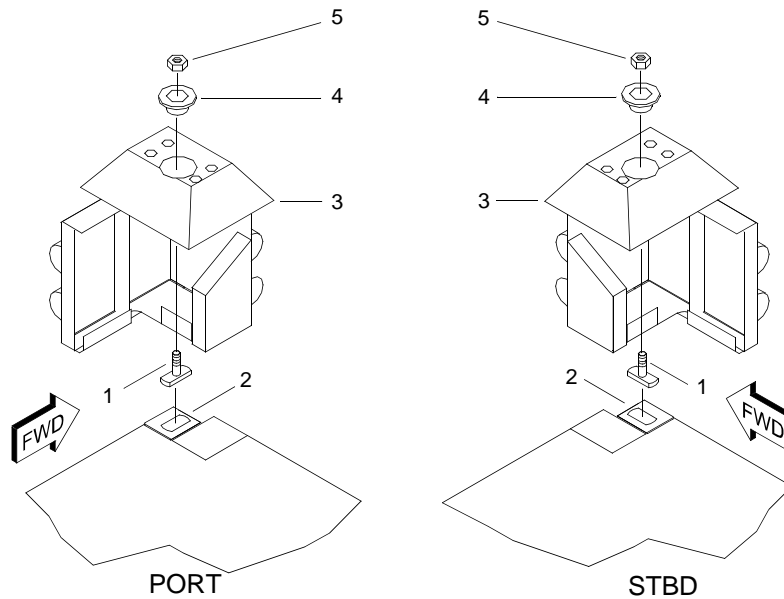

Figure 6. Installing Corner Fenders
7. Install tee bolt (figure 6, item 1) into end rake ISO corner fitting (figure 6, item 2).
8. Using assistant, install corner fender (figure 6, item 3) over tee bolt (figure 6, item 1) until threads are exposed through hole in top of corner fender (figure 6, item 3).
9. Install washer (figure 6, item 4) and nut (figure 6, item 5) to hold tee bolt (figure 6, item 1) in place.
10. Turn tee bolt (figure 6, item 1) until it contacts inner surface of ISO corner fitting (figure 6, item 2) and hand-tighten nut (figure 6, item 5). Snug down nut (figure 6, item 5) with socket, adapter and wrench.